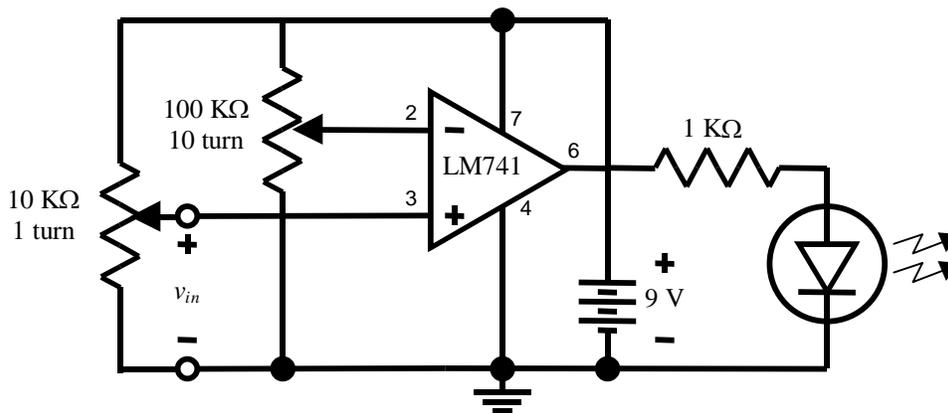

Figure P3-1 Comparator Circuit.
The part of the car alarm will be played by a comparator circuit (Figure P3-1). A comparator compares two voltages (hence the name). If the first voltage is higher than the second, the comparator output saturates high, near  $+V_{cc}$ . If the second voltage is higher than the first, the comparator output saturates low, near  $-V_{cc}$ . Thus the comparator converts an analog voltage (one that can take on an infinite number of values) into a digital one (high or low, 1 or 0, on or off). A comparator is a simple form of analog-to-digital converter (ADC).
**3.a. (5 points)** Construct the circuit of figure P3-1. Adjust the 100 K $\Omega$  pot to vary  $V_-$ . Adjust the 10 K $\Omega$  pot to vary  $v_{in}$ . Complete Table P3-1.